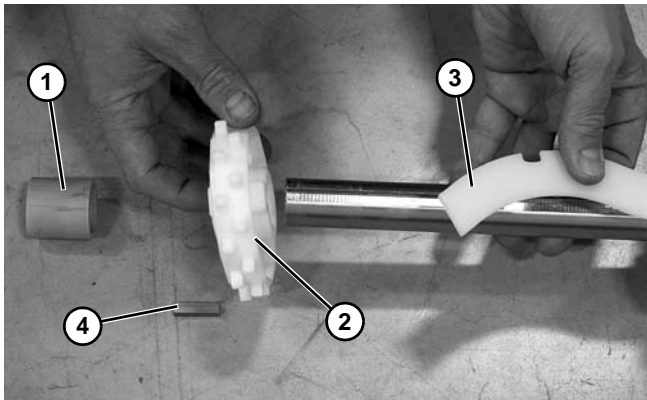

Figure 52
10. Slide the spacer (**Figure 52, item 1**) off the drive spindle.
11. Slide entire sprocket assembly slightly outward, and remove the first sprocket (**Figure 52, item 2**) off the drive spindle and alignment key (**Figure 52, item 3**).
12. Remove drive spindle key (**Figure 52, item 4**).